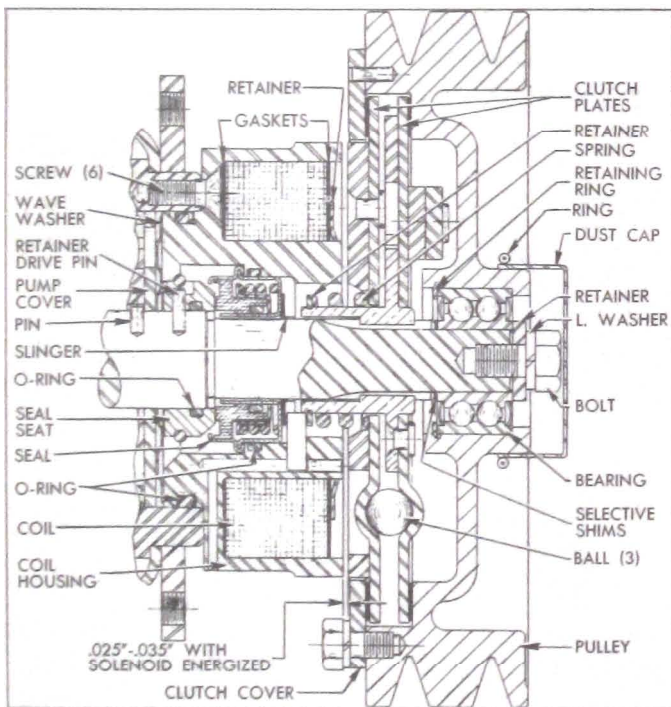

Figure 11-18—Clutch and Shaft Seal—Sectional View
1. Remove clip ring and dust cap from pulley hub, then remove bolt, lockwasher and retainer. See figure 11-18.
16. Connect solenoid coil leads to 12 volt battery to energize coil, then check clearance between rear clutch plate armature and coil housing, using brass or bronze feeler gauges. This clearance should be .025"-.035". See figure 11-18.
2. Remove six Phillips head screws, then carefully pry the coil housing away from compressor body. An oil slinger pressed on the shaft will come out as housing with seal is removed. See figure 11-18.